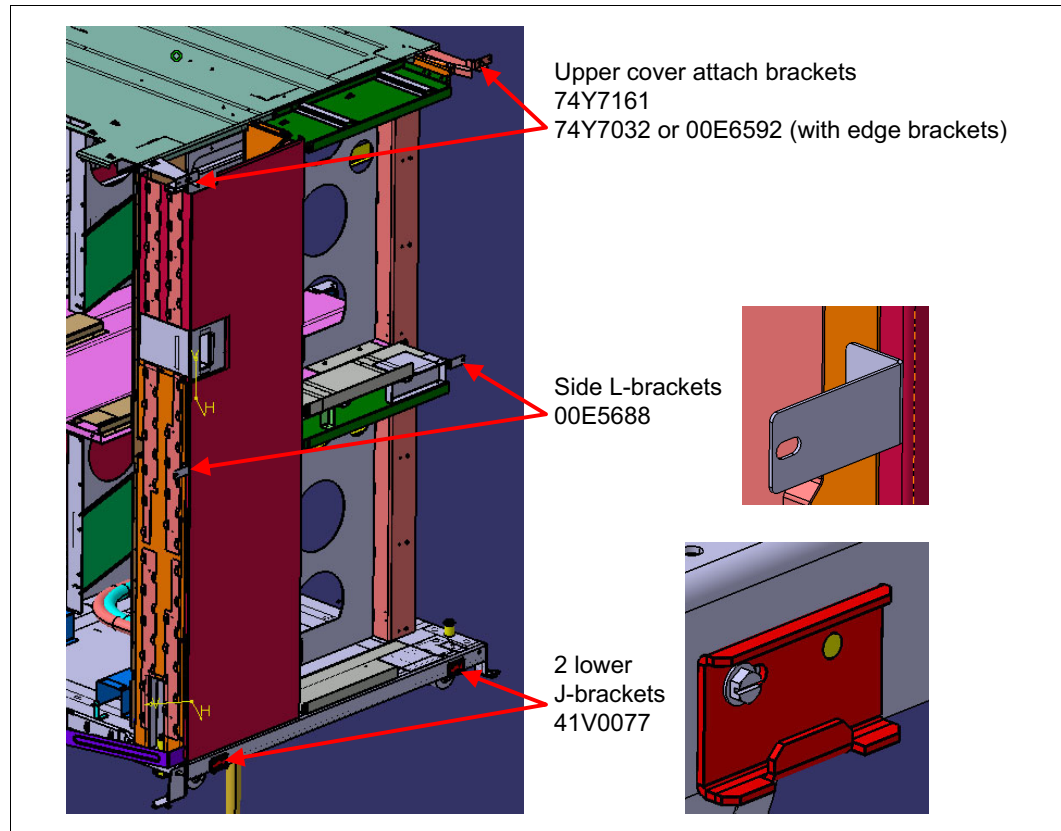

Figure 1-43 Side cover bracket installation
1. For racks at the end of a row, install the two L-brackets and the two lower J-brackets. All other brackets are used on every rack. See Figure 1-43.